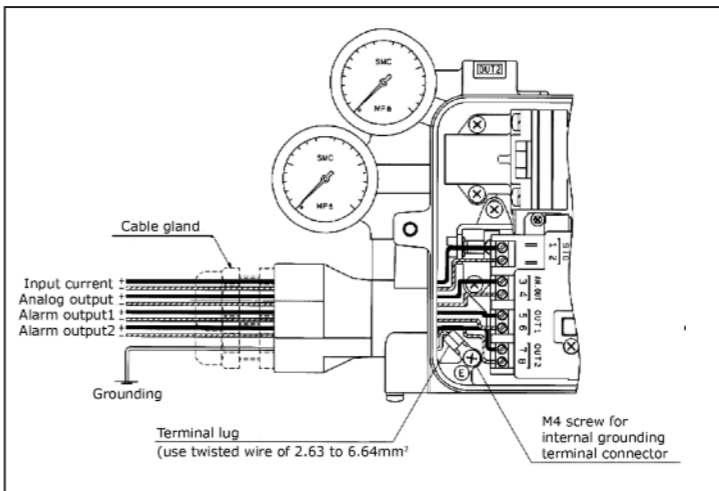

Fig. 8
- (1) Remove the positioner body cover.
- (2) Connect the input current wiring from an adjusting meter (controller) and connect each output wiring following Fig. 8. The input port of the electrical connection is equipped with a (blue) cable connector M20x1.5.